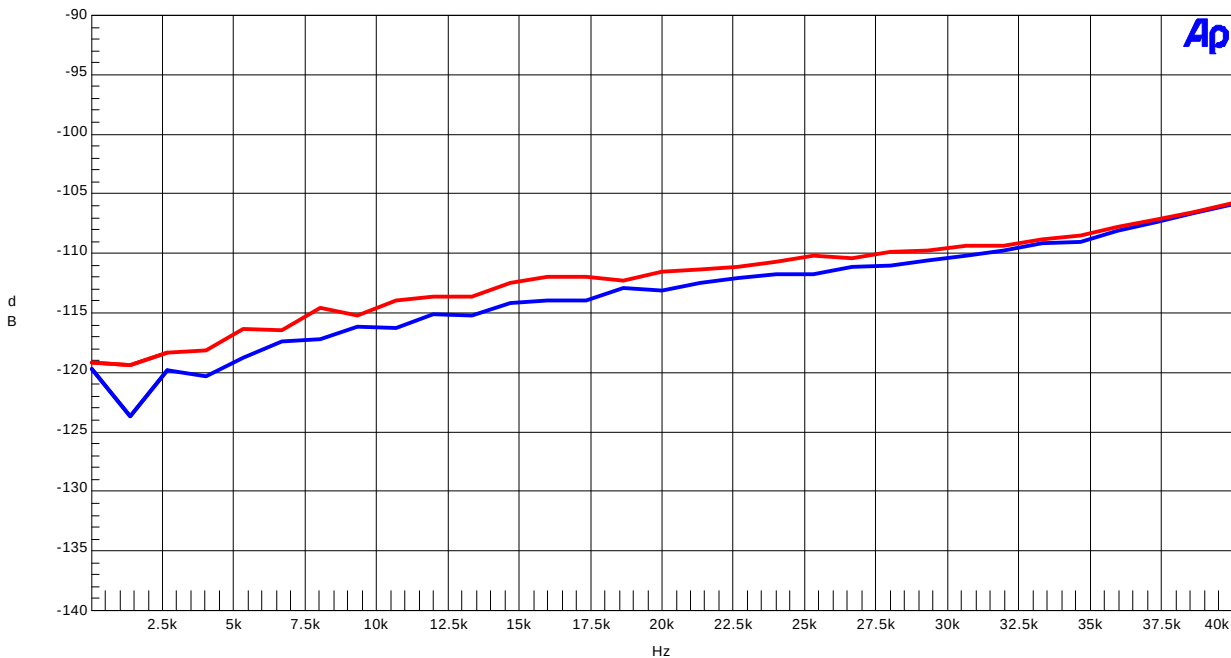

Figure24. Cross-talk (Input level=0dBFS)
- Figure24. Cross-talk (Input level=0dBFS)